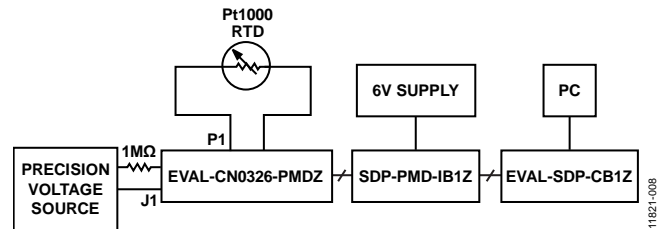
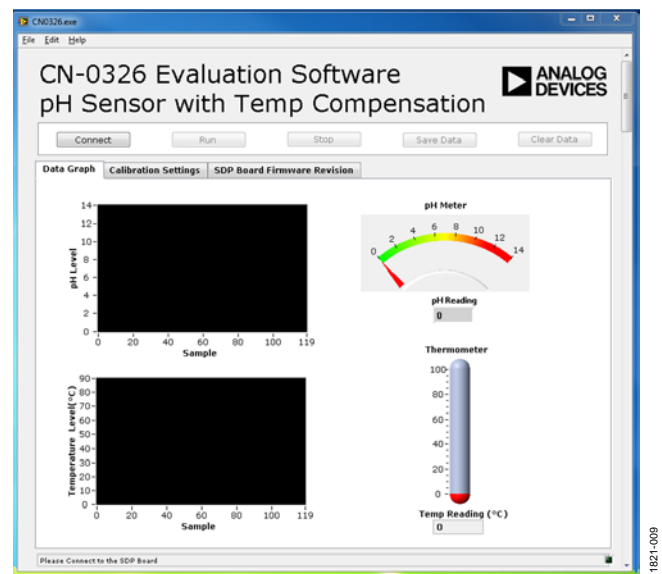

Figure 8. pH Sensor Block Diagram Test Set-up
Figure 9. Evaluation Software Main Window
3. Before running the program shown in Figure 9, connect the pH probe at the BNC terminal and the RTD sensor to the terminal jack of the EVAL-CN0326-PMDZ.
4. After all the peripherals and power supply are all connected and turned on, click **Connect** on the GUI shown in Figure 9. When the evaluation system is successfully detected by the PC, the EVAL-CN0326-PMDZ circuit board can now be evaluated using the software shown in Figure 9.
The functional block diagram of the test set-up is shown in Figure 8. The test set-up should be connected as shown. A screenshot of the main software window is shown in Figure 9.
Agilent E3631A and Yokogawa GS200 precision voltage supplies were used to simulate the sensor output. The negative terminal of the Yokogawa is connected to the negative terminal of the ADC for the pH sensor. The positive terminal is in series with the resistor, which is connected to the positive terminal of the ADC as shown in Figure 8. The Yokogawa generates the  $\pm 420$  mV, which then simulates the pH sensor output, and the series resistor is then varied to simulate the impedance of the glass electrode of the pH probe as shown in Figure 8.
The CN-0326 Evaluation Software is used to capture the data from the EVAL-CN0326-PMDZ circuit board using the setup seen in Figure 8.